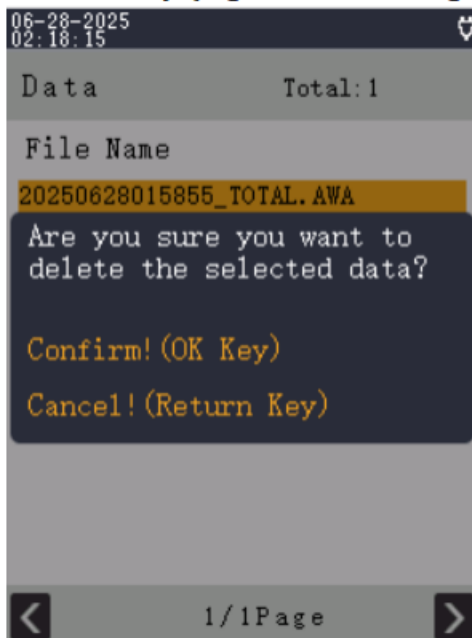
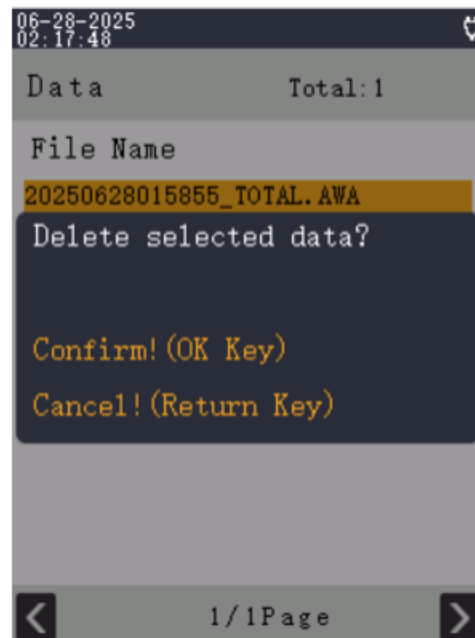

Figure 6.23
Figure 6.24
- 4) Delete One Record: In the details view, press Delete. Confirm twice to delete the selected entry (Figure 6.23 and Figure 6.24).